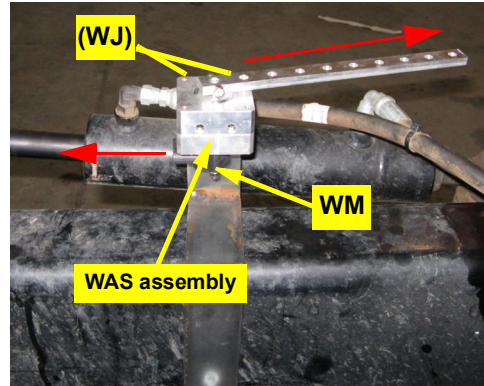

Figure 2b: Installed WAS assembly
b. Using hardware **WJ** (not visible), attach the prepared WAS assembly to the rear face of bracket **WK**. Mount the assembly with WAS arm **WC** uppermost and facing inward and the wire connector of **WB** facing outward (Figure 2b).